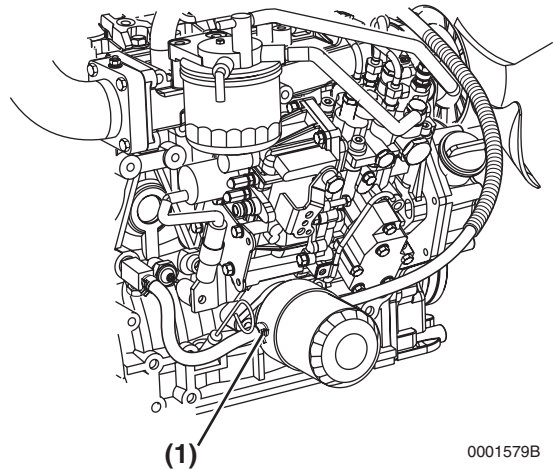

Figure 8-5
- On models equipped with an oil cooler, remove the coolant hose (**Figure 8-5, (1)**) at the oil cooler.